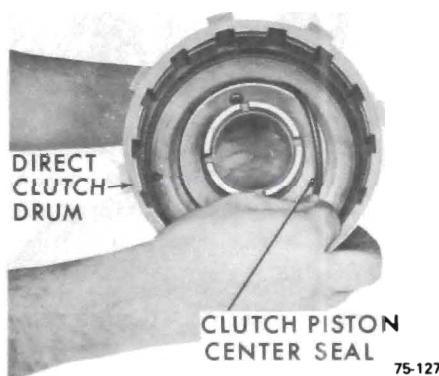

Figure 75-177
11. Remove direct clutch piston center seal. See Figure 75-177.